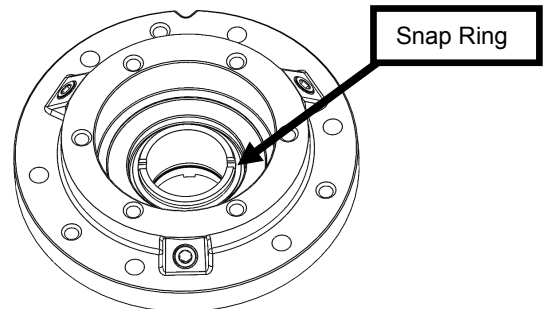

Figure 2 – Snap Ring Removal (Plan 53)
1. Remove snap ring from shaft drive collar(153N) as shown in Figure 2.
6. Insert rotating seal sub-assembly (153A) into cartridge sub-assembly. Turn assembly over and install snap ring. See Figure 2.